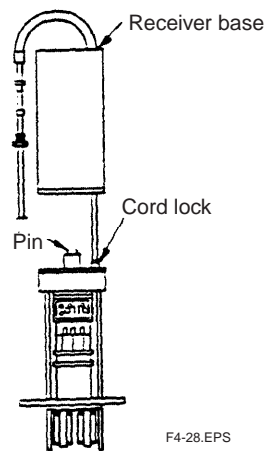

Figure 4.28
6. At this time, line up the receiver base with the cord lock, as in Figure 4.28.